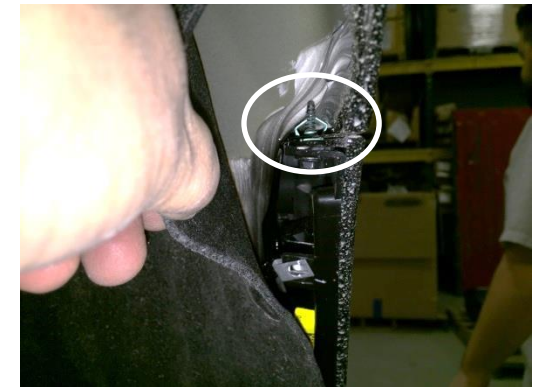

Figure 2
1. Fascia removal – use 7 mm socket and T-15 stardriver to remove (10) bolts and (4) screws, 1 bolt each side is hidden behind the wheel well liner. see Figure 2.
Fascia removal – use 7 mm socket and T-15 stardriver to remove (10) bolts and (4) screws, 1 bolt each side is hidden behind the wheel well liner. see Figure 2.